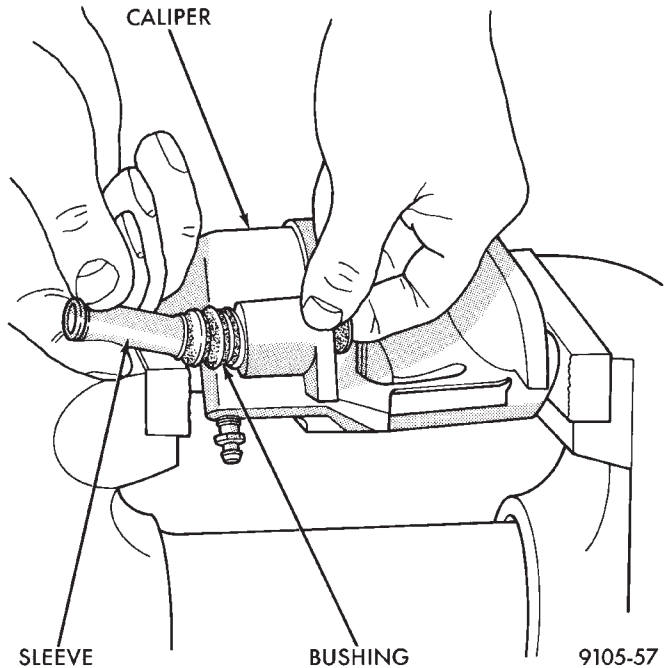

Fig. 3 Removing Inner Sleeve
(1) Push out and then pull the inner sleeve from inside of the bushing using your fingers as shown in (Fig. 3).